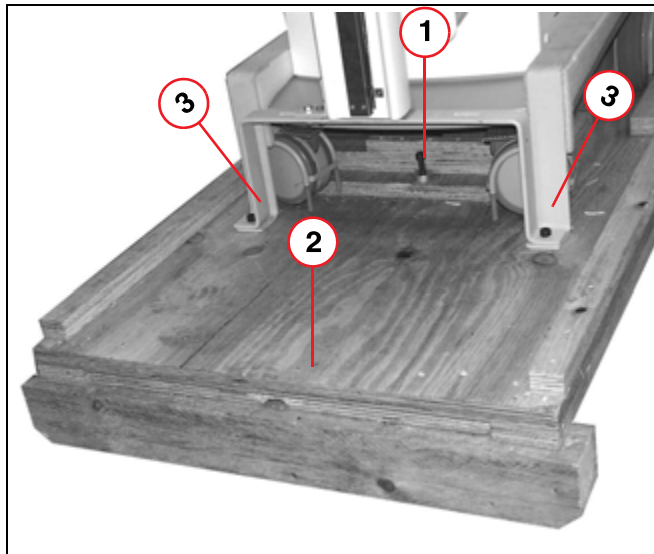

Fig. 3: Ramp 01
- Remove the transport safety screw (1/Fig. 3 / p. 11) used to secure the unit and the ramp (2/Fig. 3 / p. 11).
- Remove all transport safety brackets (3/Fig. 3 / p. 11).